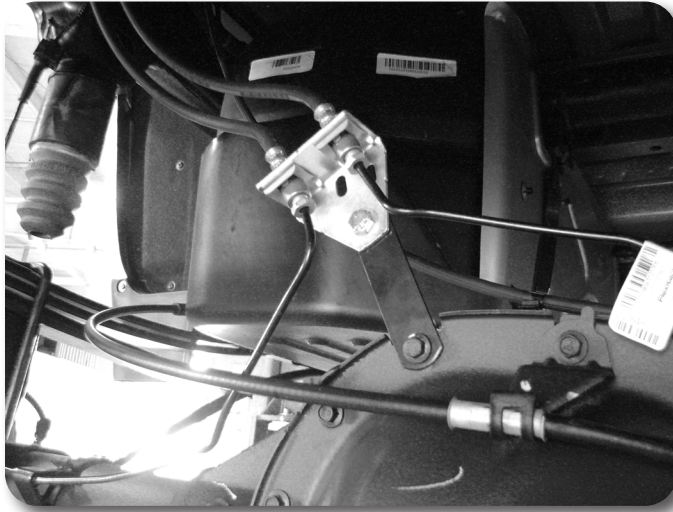

Figure 28
15. Install the provided straight 3" brake line bracket to the top of the differential using factory mounting hole and bolt which must be removed from the factory brake line bracket. Attach the factory brake line bracket to the relocation bracket with a 5/16" x 1" bolt, nut and washers. Torque the factory and 5/16" bolt to 20 ft-lbs **Figure 28**.